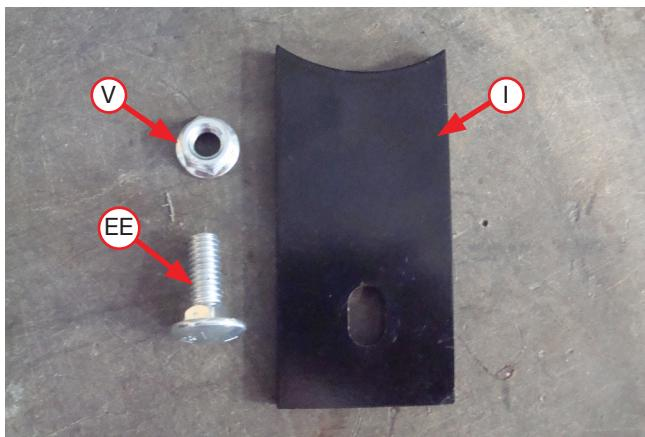
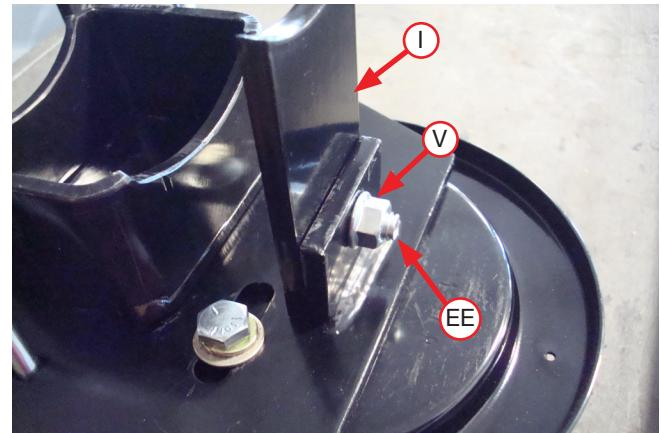

Fig. 15
Fig. 16
8. Attach the lower leg adapter (I) to the lower bracket using a 3/8"-16 x 1" carriage bolt (EE) and 3/8"-16 serrated flange lock nut (V) (Fig. 15). Install as shown (Fig. 16). Push the adapter against the lower bracket and torque the hardware to 16 lb.-ft. (14Nm).